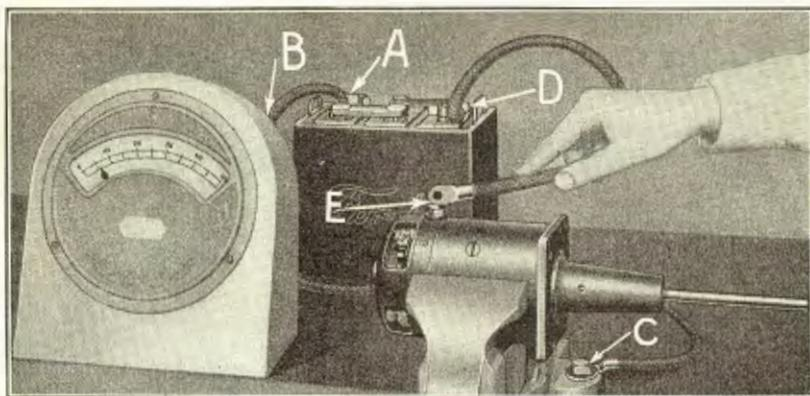

Fig. 518
- 1089** The starting motor is then placed in a vise, which is connected to a storage battery by means of a cable extending from the negative post on battery (See "A" Fig. 518), to ammeter "B" and to vise "C". The meter should have a range of from 0 to 500 amperes. A cable is then run from the positive terminal "D" on battery to starting motor terminal "E". When connected in this manner a charge of 50 to 75 amperes should register on the meter if starting motor is O. K.